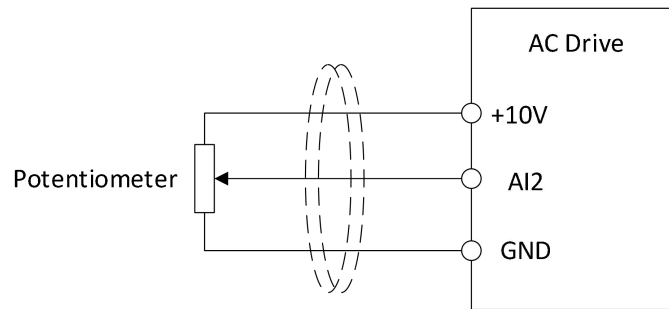

Figure 5-4-1 Voltage type wiring diagram
- ① Both AI1 and AI2 support 0-10V voltage input, see Figure 5-4-1
- ② The dotted line in the figure is a magnetic ring, usually ferrite, which can lead the wire through or around the same direction for 2-3 turns
- ③ Because the analog voltage signal is weak and susceptible to interference, it is generally necessary to use a shielded cable, and the wiring distance is as short as possible. Generally, not more than 20m.